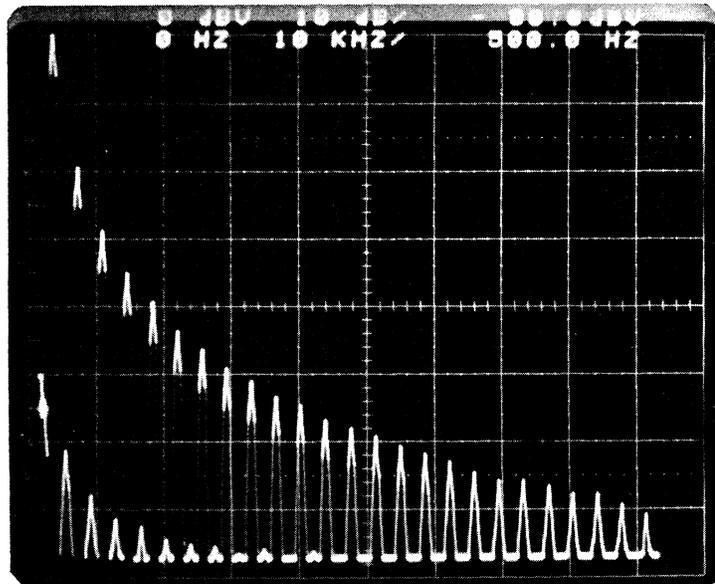

Fig. 3-1 Example of Uncalibrated CRT Display using Internal Test Signal
- d. Adjust INTENSITY and GRAT Illumination. A typical display as seen in Fig. 3-1 will appear. It is the internal test signal and as shown here, it is not properly positioned with respect to the CRT graticule.